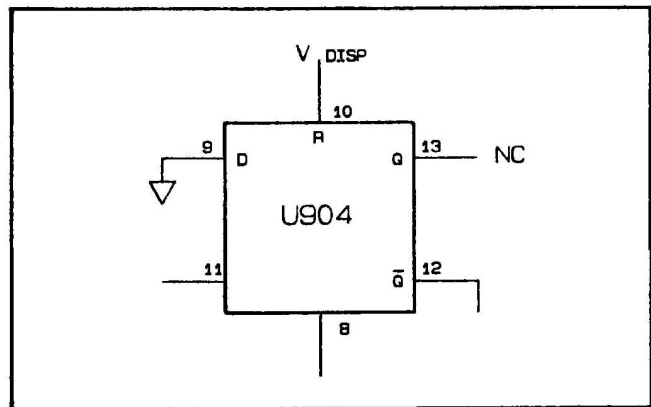

Figure 7-3. Schematic 4 Changes (Change #3)
b. Change the U904 circuitry on the schematic as shown in Figure 7-3.